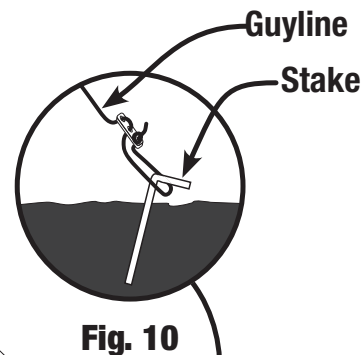

Fig. 10
- Attach and stake out guylines. (Fig. 10)
- Remove guylines and stakes. (Fig. 10 and 9)